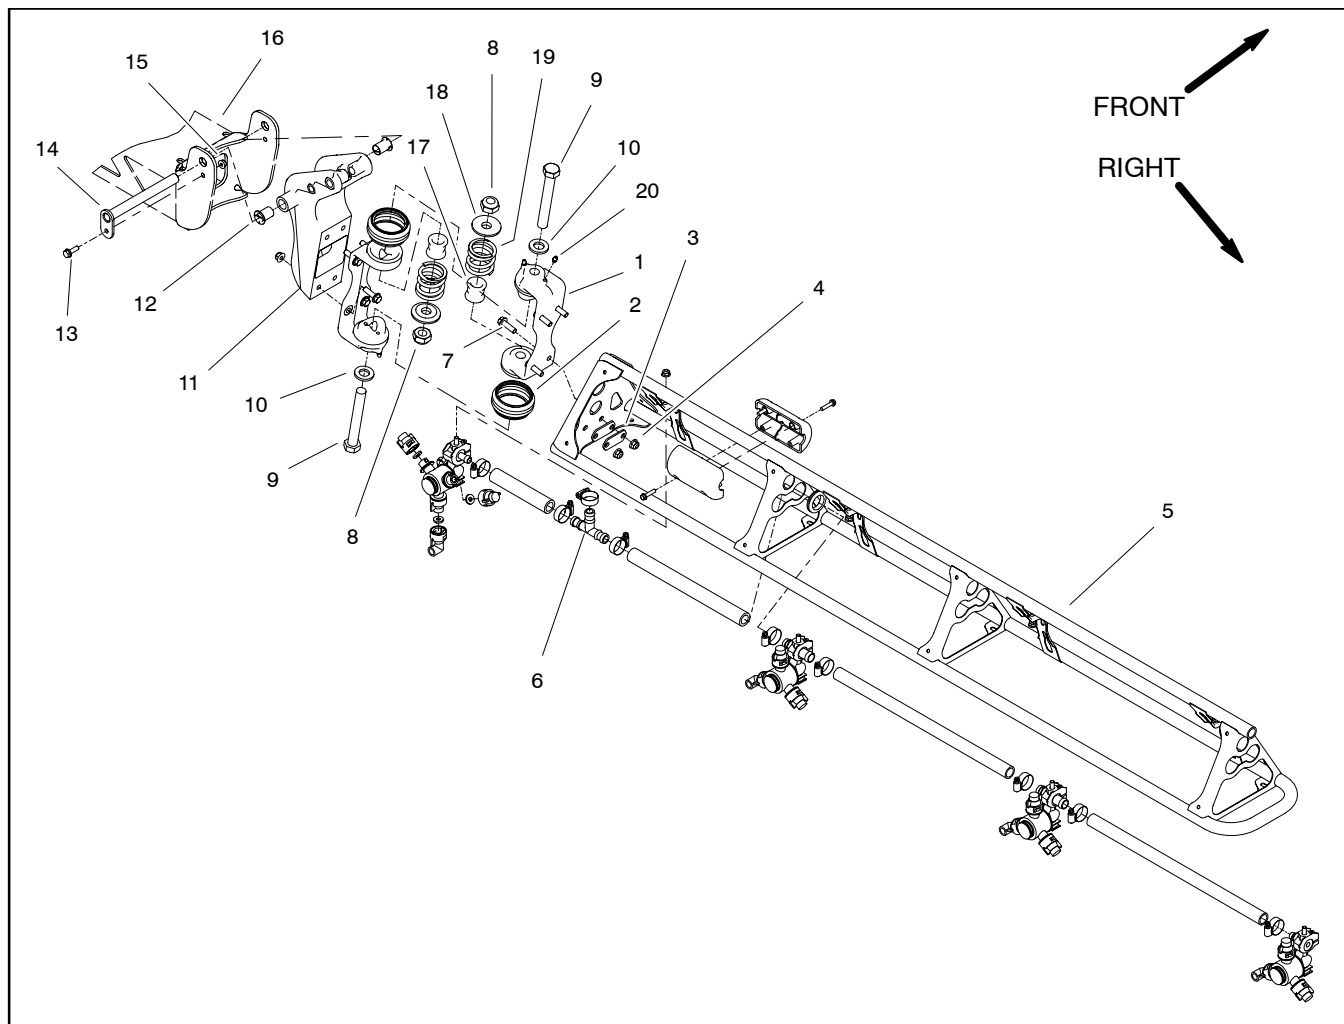

Figure 41
Disassembly (Fig. 41)
2. Loosen hose clamp and remove supply hose from tee fitting (item 6) on spray boom.
4. Loosen two (2) cap screws (item 9) and lock nuts (item 8) to allow breakaway springs (item 18) to fully extend.
5. Complete disassembly as required using Figure 41 as a guide. If pivot bracket (item 11) is to be removed from machine, disconnect boom actuator (not shown) from pivot bracket (see Boom Actuator Removal (Machines with Serial Numbers Above 260000000) in this section).
Assembly (Fig. 41)